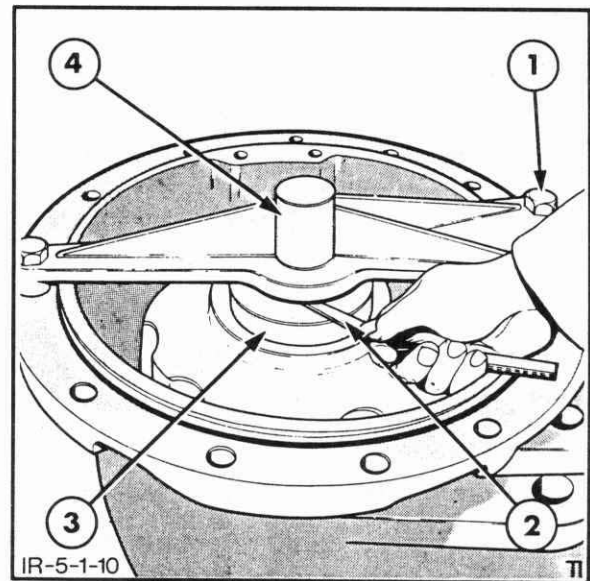

Figure 5-10
- e. Using a feeler gauge, measure the gap between the bridge bar and the gauge ring, Figure 5-10.